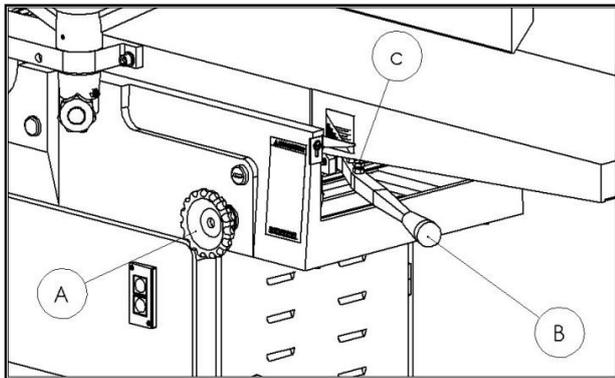

Fig. 6
2. Loosen the lock handle (A) and raise table adjustment arm (B), Fig. 6, on the outfeed table so that the screw (C) is just against the outfeed table.